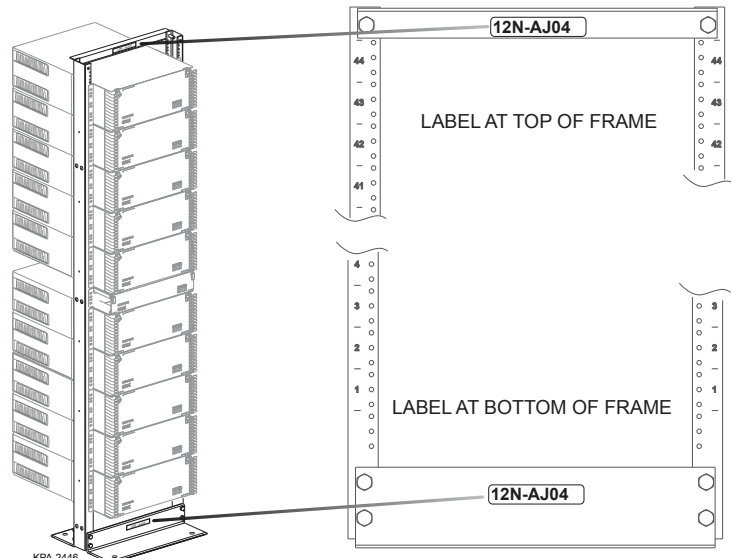

Figure 26 — Frame/Cabinet Label Location
- Step 5:** Mate connectors at the end of the harness, jumper, or trunk in the electronics equipment as illustrated in Figure 26 per instructions provided with that equipment or according to your installation plan.
Step 1: Frame/Cabinet Location (Figure 26)